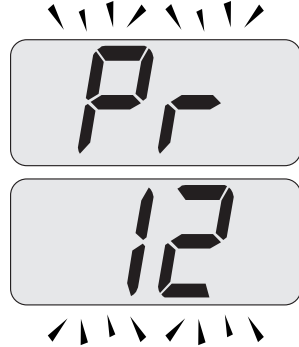

Fig. 7.47
- Scroll the various parameters using keys 15 or 16 until the letters **Pr** that alternate with code **12** are displayed on the LCD display, indicating that "parameter 12" (Fig. 7.47) has been activated.
- Press keys 14 and 15 (Fig. 7.45) at the same time to exit without changing the value (return to the parameters list Fig. 7.47)